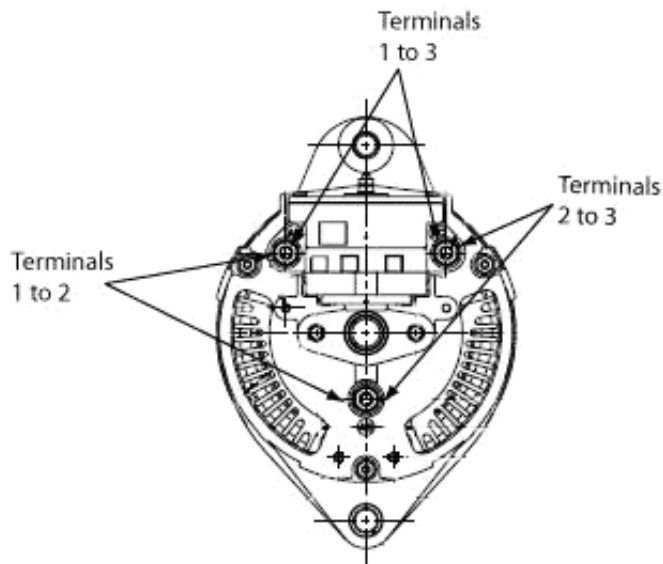

Figure 5
G. With the engine idling, measure the AC terminal voltages (alternator AC taps) 1 to 2, 2 to 3 and 1 to 3 (see Figure 5). All three readings should be within one volt (1V).